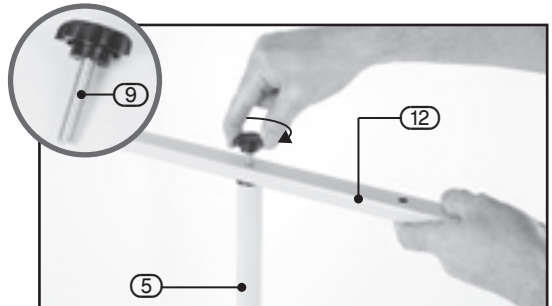

FIG.4
8.3 TWIN LIGHT TRIPOD MOUNTED WORKLIGHTS – FIGS. 4 – 7
- Align the twin light cross bar mount (12) with the threaded hole at the end of the tripod stand (5).
- Attach the main lamp head bracket fixing bolt (9) and turn in a clockwise direction to tighten.